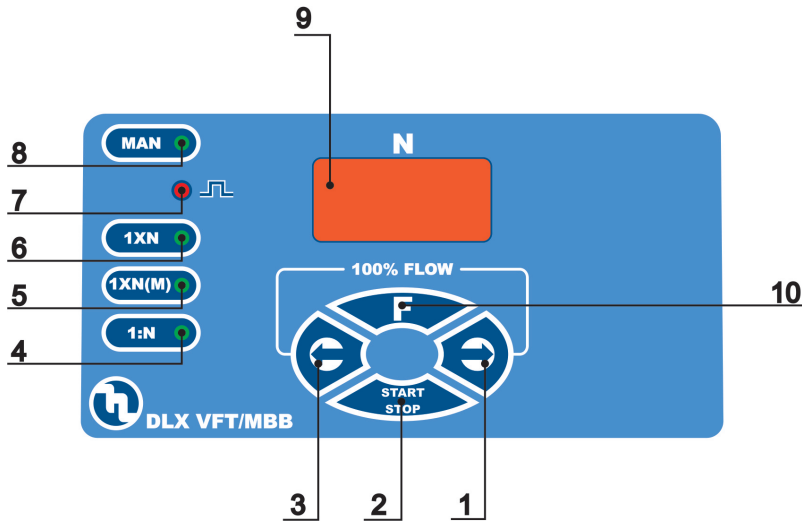
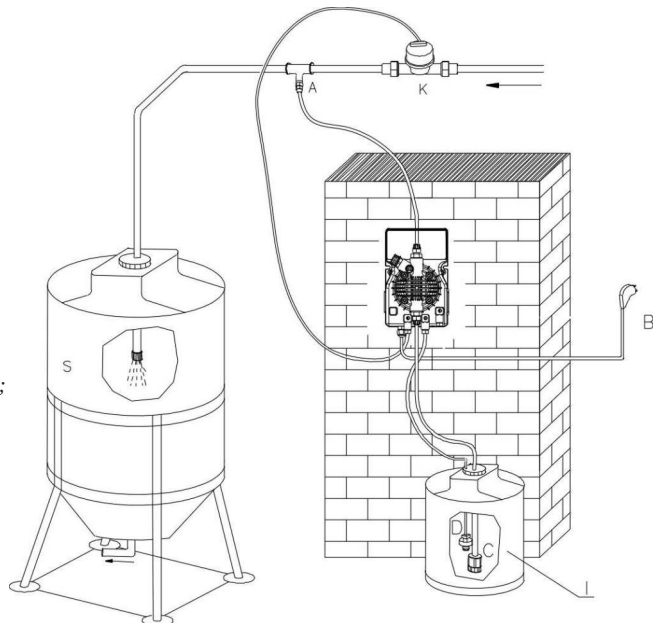

Fig. 13
Fig. 14
6.1 - PUMP CONTROLS (Fig. 13)
- 5 - "green" LED 1XN (M) function
6.2 - TYPICAL INSTALLATION (Fig. 14)